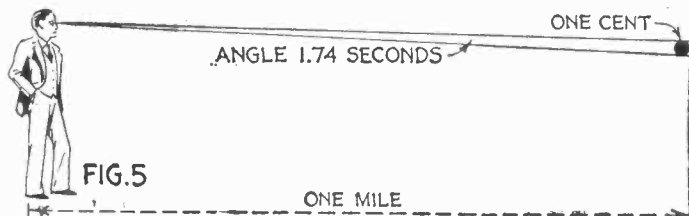

FIG. 5
average. We cannot hope for exact agreement here. Even the maximum angle of deflection, 1.74 seconds, for a star exactly at the edge of the sun, is tremendously small. It is approximately equal to the angle subtended by the opposite edges of a penny a mile distant. (Figure 5.) Therefore, when we measure the still smaller actual deflections, our failure to fit the predicted curve accurately is no more surprising than the failure of a marksman to strike the bull's-eye every time, when his target is placed at an unusually great distance. Our observations are not infinitely accurate, that's all. The agreement of observation and theory is excellent. Prediction (1) comes through the experimental test with flying colors.